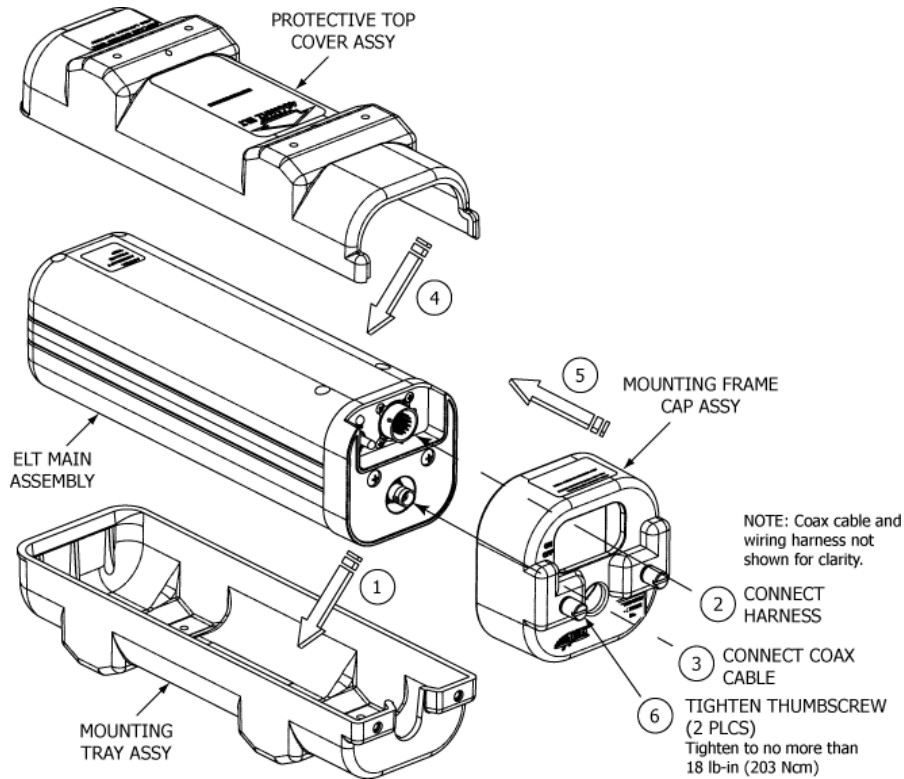

Figure 23 ELT Installation Sequence
- 1) See Figure 23 ELT Installation Sequence.